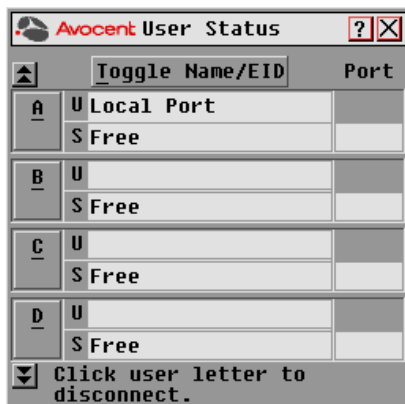

Figure 3.17: OSCAR Interface User Status Dialog Box
2. Click *Commands - User Status* to open the User Status dialog box shown in Figure 3.17.